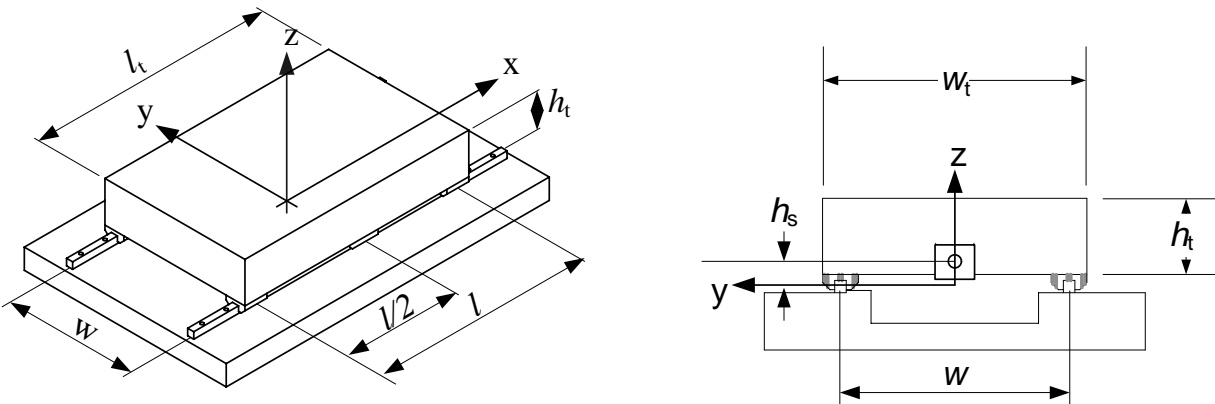

Figure 1 Linear axis consisting of 2 linear rails with 3 trucks each. The axis is driven by a ball screw.
- a) Derive the stiffness matrix K (in analytical form) for the linear axis shown in Figure 1. Use the following assumptions:
To assist in the otherwise tedious process of bearing selection, you are asked to develop an electronic tool (e.g. Microsoft Excel) that contains a number of standard bearing sizes (see Table 1) and calculates all relevant parameters. For the linear axis shown in Figure 1, the tool needs to have the following abilities:
- Use 6 identical linear bearings that are arranged as shown in Figure 1 whose lateral and vertical stiffness are modeled using linear springs.